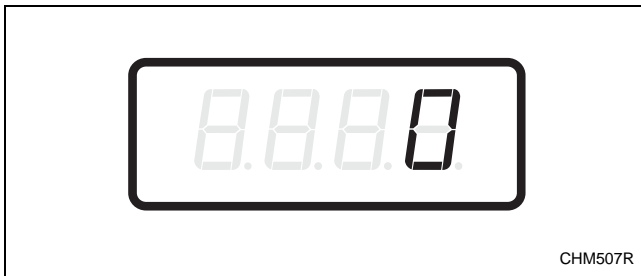

Figure 19
2. When “SA15” appears in the display, press the START (enter) keypad. There are five digits in the Special Vend A Delicate/Warm Vend Price. The fifth digit will appear in the display and will flash one (1) second on and one (1) second off. Refer to *Figure 19*.